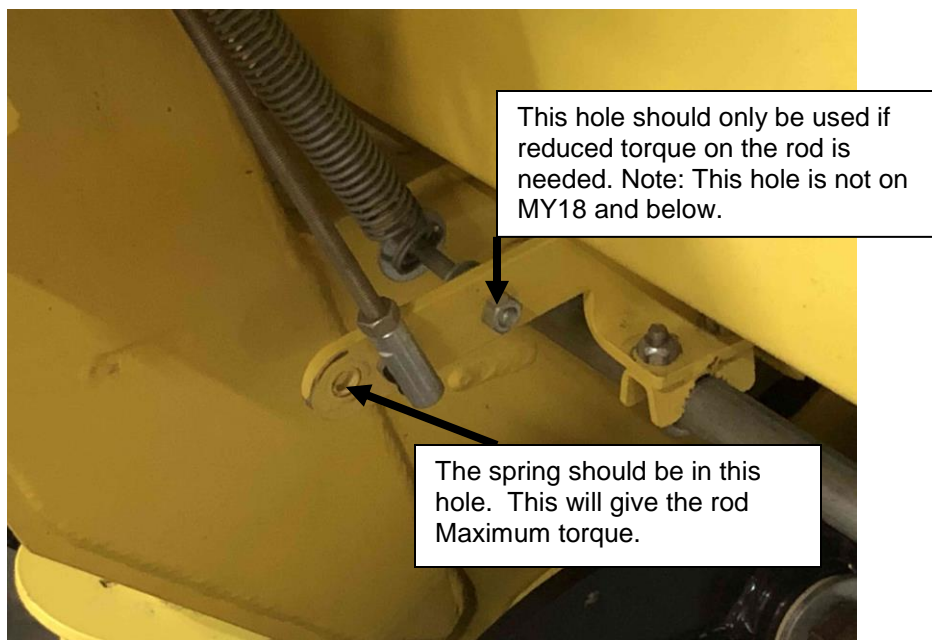

Figure 4
- The spring at each flex sensor should be set, in the sensor activation tab, in the hole to the rear of the header. This will give the spring the most pressure on the HHC tube to assist in moving the tube. The other hole on the front of the activation tab, close to the clamps on the tab, is there if twisting the tube is an issue. (Figure 4)